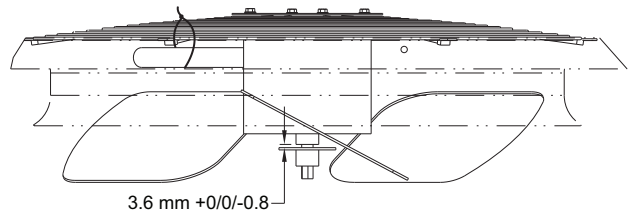

Fig. 36 - Outdoor Fan Blade Position
4. Adjust fan height as shown in Fig. 36.